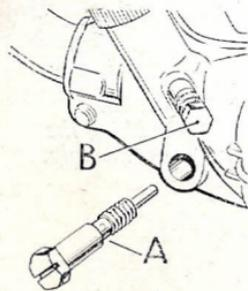

FIG. 11.
Throttle Cable:—Adjustment should be such that when the throttle is closed there is a trace of slackness in the cable. The engine should still run slowly, but if not, screw the adjuster (*B*) Fig. 11, in or out by a quarter of a turn at a time, until this condition is achieved. This may require further cable readjustment.
Carburetter Jet:—The jet (A) Fig. 11, is readily accessible for cleaning in the event of blockage and consequent fuel starvation, and its removal does not necessitate dismantling the carburetter. Unscrew the jet with a suitable spanner and blow through the orifice until it is certain that it is clear of any obstruction. Make sure that the obstruction has not been transferred to the smaller side holes. Do not use any sharp implement for cleaning purposes and do not over-tighten when replacing.